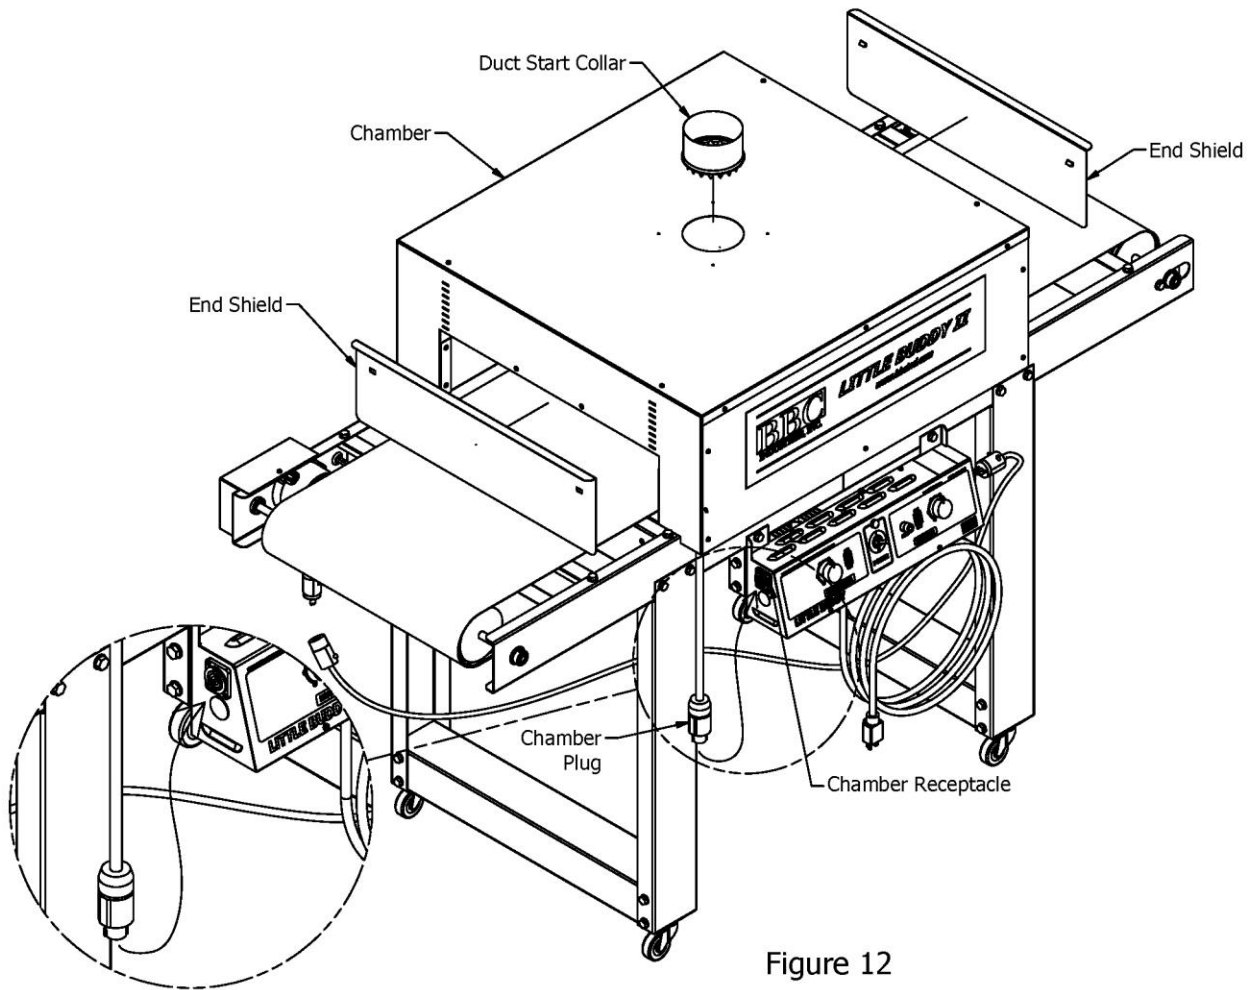

Figure 12
5. Plug the Heating Chamber cord into the receptacle on the Control Panel. (See Magnified View, Figure 12)